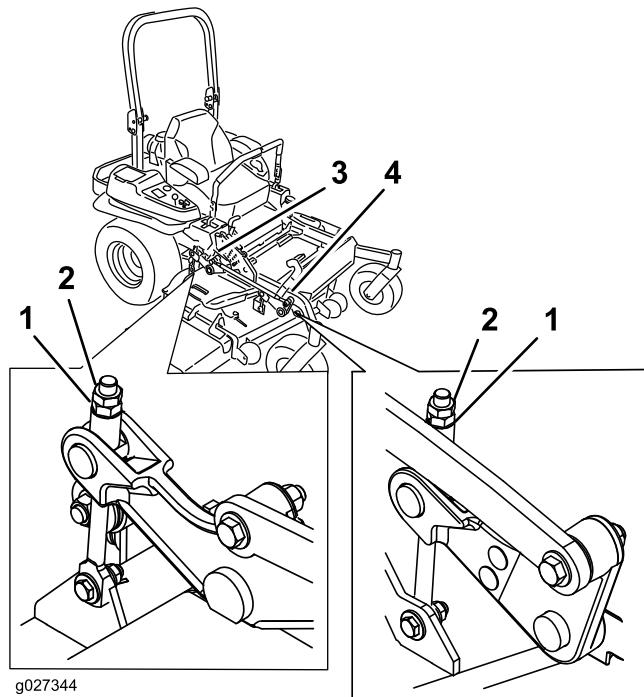

Figure 94
10. If needed, loosen the flanged locknut on the side of the yoke and the jam nut on top. Fine-tune the adjuster screw by turning it to get 7.6 mm (3 inch) height (Figure 94).
16. Fine-tune the adjuster screw by turning it to get 8.3 mm (3-1/4 inches) height (Figure 94). To increase the height, turn the adjustment nut clockwise; to decrease the height, turn the nut counterclockwise.